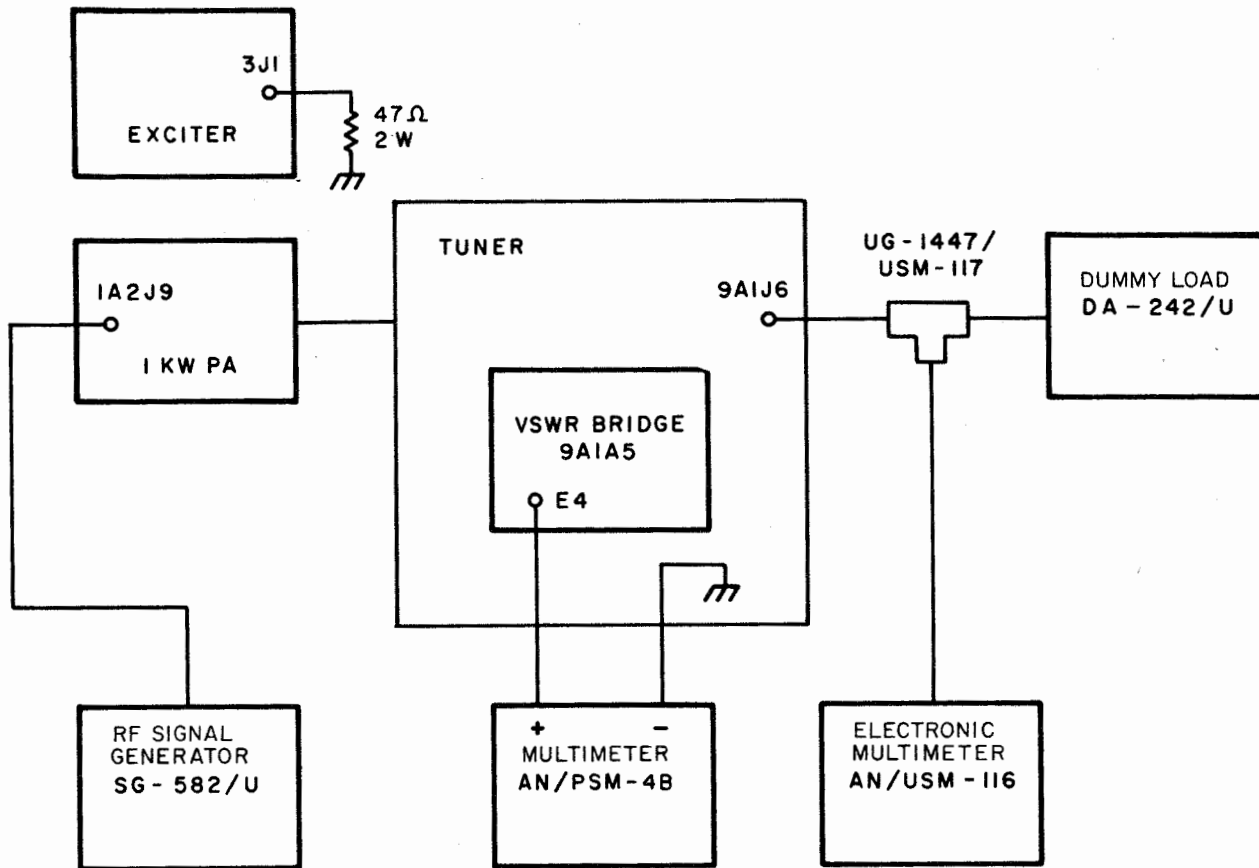

Figure 5-6. Tuner VSWR Bridge Alignment Setup
- c. Connect a 47 ohm, 2W resistor or other suitable dummy load to Exciter RF OUT connector 3J1 (figure 5-6).
- e. Connect RF Signal Generator SG-582/U to 1 KW PA RF input connector 1A2J9. Set SG-582/U for minimum output at 21 MCS with no modulation (CW).